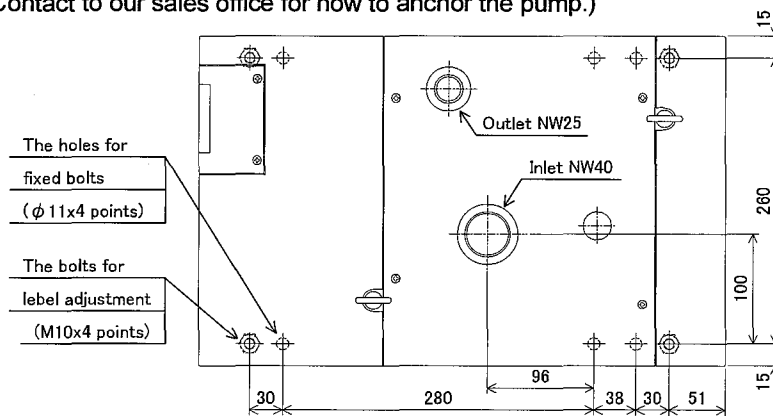

Fig.4.2 Pump fixation position
*Please do fixation and the horizontal putting out of the pump with the base. (Fig. 4.2, 3)